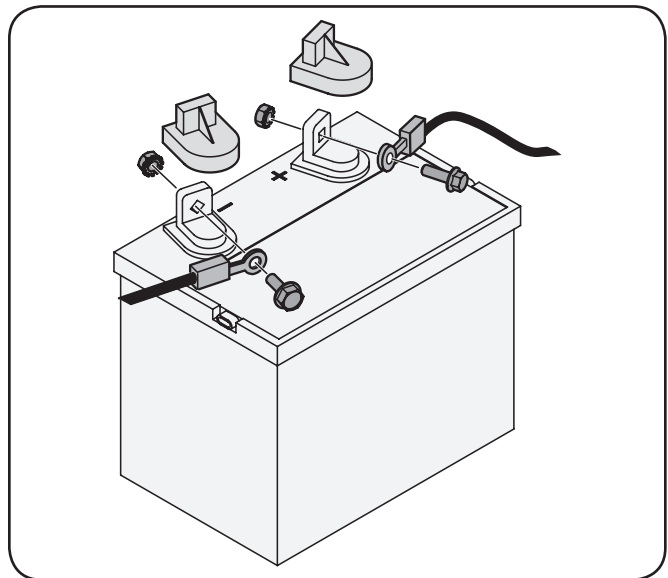

Figure 3-2
1. Remove the plastic cover, if present, from the positive (+) battery terminal and attach the red cable to the positive (+) battery terminal with the bolt and hex nut. See Fig. 3-2.
2. Remove the plastic cover, if present, from the negative (-) battery terminal and attach the black cable to the negative (-) battery terminal with the bolt and hex nut. See Fig. 3-2.